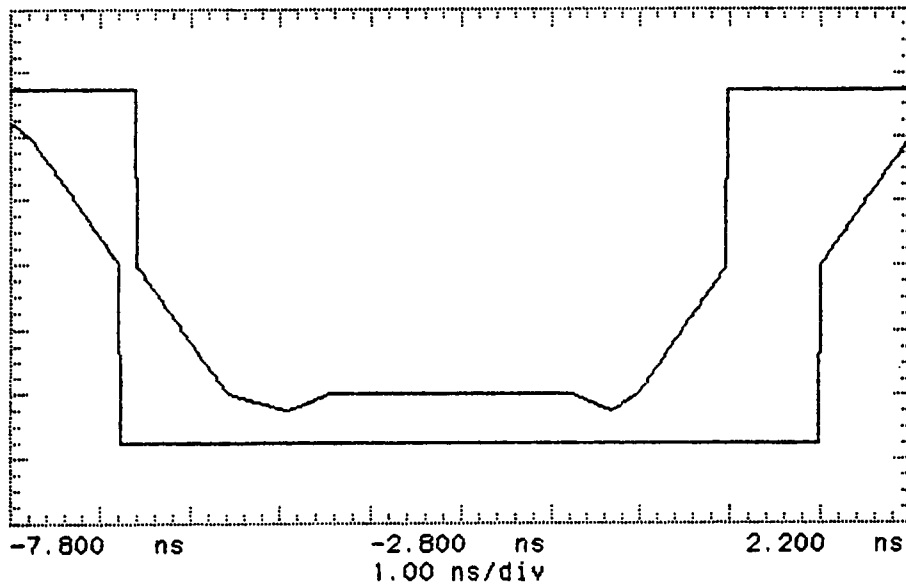

Figure 3-12. 140 Mb/s Pulse Mask All 1's
40. Press SHIFT **AUTOSCALE** on the oscilloscope to automatically align the pulse to the mask. Verify that the pulse falls within the mask as shown in Figure 3-12.
If your oscilloscope does not have the Mask feature, obtain a printout of the displayed pulse. Place the mask, shown in Figure 3-12, over the pulse and ensure that the pulse falls within the mask. (A transparent copy of the mask should be used).